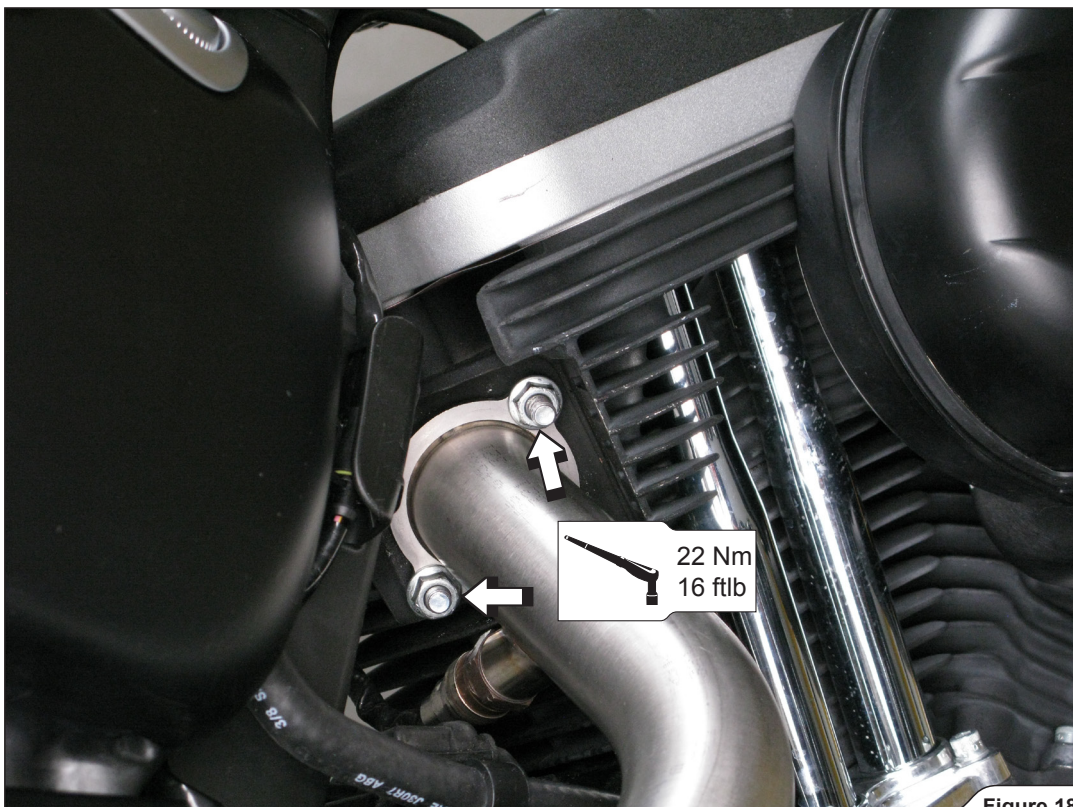

Figure 18
- Tighten both headers' flanges to the specified torque (Figure 18).